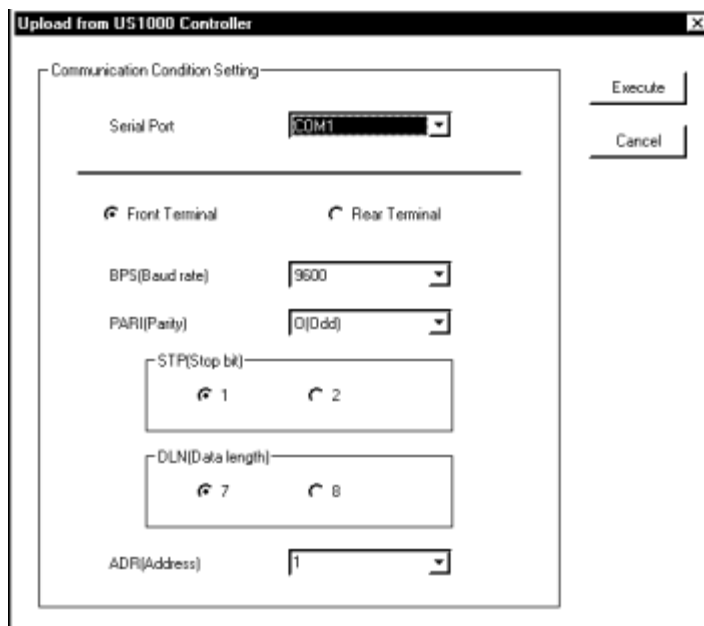

Figure 6.1.1 [Upload from US1000 Controller] Dialog Box
- (1) From the tool menus, choose <Communication>, then <Upload from US1000 Controller>. The [Upload from US1000 Controller] dialog box (Figure 6.1.1) appears.
- (2) From the <Serial Port> drop-down list box, choose a communication port of the personal computer.
- (3) Click the <Front Terminal> option button.
- (4) After connecting the equipment, click the <Execute> button.
- (5) When uploading is complete, a message appears, informing that *Parameter data have been uploaded from the US1000 controller.*
- (3) Click the <Rear Terminal> option button.
- (4) Set the RS-485 communication parameters: